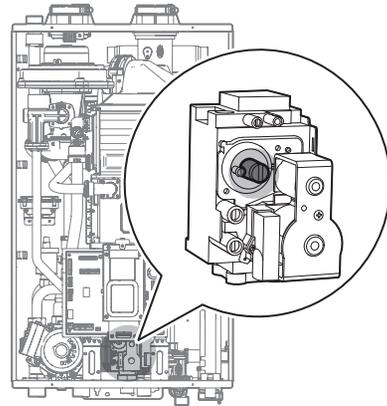

Figure 10. Set Screw Location
- c. Fully open a hot water fixture and set the boiler to operate at 1-stage MIN mode (refer to table 2). Measure the offset value at low fire and compare it to the values in Table 3. If the offset value is out of range, the gas valve set screw will need to be adjusted. If adjustment is necessary, locate the set screw as shown in Figure 10. Using a 5/32 in or 4mm Allen wrench, turn the set screw no more than 1/4 turn clockwise to raise or counterclockwise to lower the offset value.